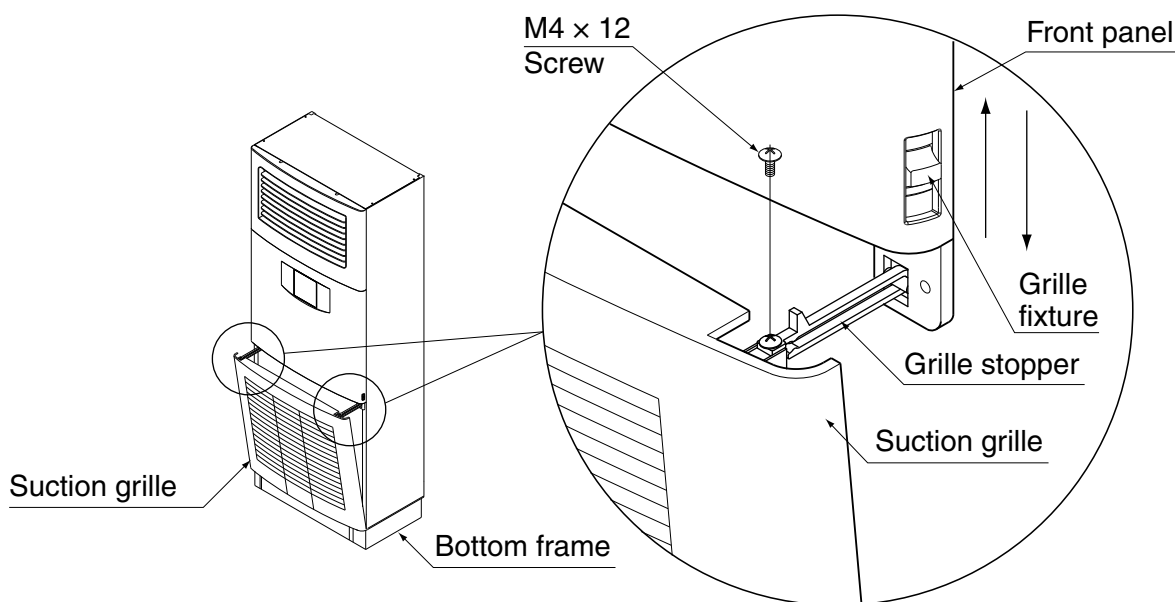

Fig. 41
2. Fit the grille stopper (front panel) into the groove on the suction grille and lock the grille down in its original place by screw. (Refer to Fig. 41)
3. Check that the grille fixture is raised, and then close the suction grille. After closing the grille, lower the grille fixture. (Refer to Fig. 41)